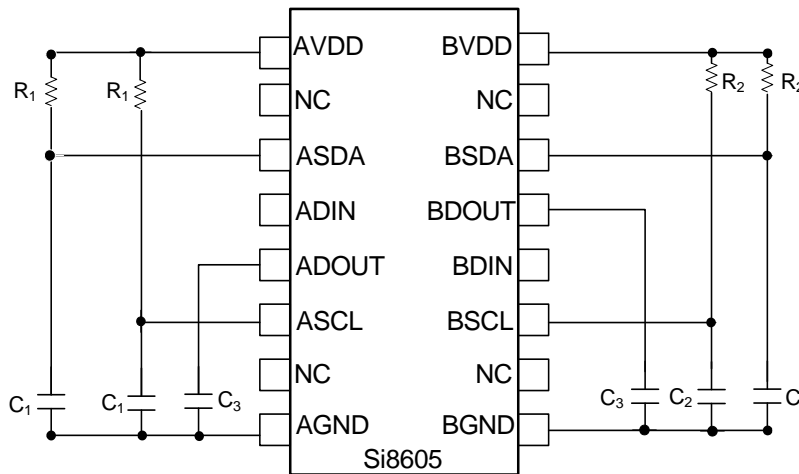
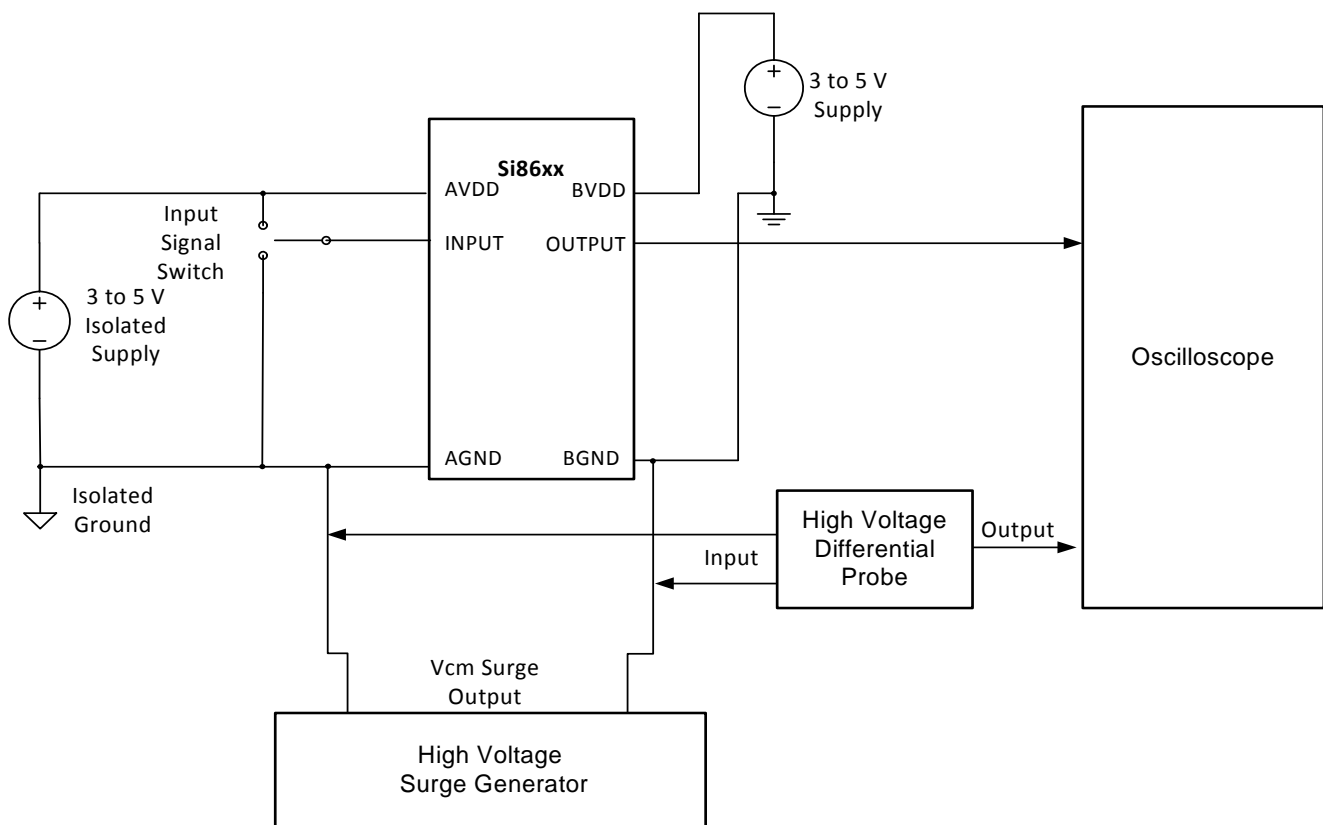

Figure 2. Simplified Timing Test Diagram
Figure 3. Common Mode Transient Immunity Test Circuit
3.0 V &lt; VDD &lt; 5.5 V. TA = -40 to +125 °C. Typical specs at 25 °C (See Figures 2 and 10 for test diagrams.)
| Side B to Side A Falling   | Tplba  | See Figure 2        | —   | 11  | 22  | ns   |
| 3.3 V  |        | See Figure 2        |     |     |     |      |
| Output Rise Time   | t r                      | C 3 = 15 pFSee Figure 1 andFigure 2 | —                  | 2.5  | 4.0  | ns   |
| Output Fall Time   | t f                      | C 3 = 15 pFSee Figure 1 andFigure 2 | —                  | 2.5  | 4.0  | ns   |
| Common Mode Transient Immunity | CMTI               | V I = V DD or 0 VV CM = 1500 V (see Figure 3) | 35   | 50   | —     | kV/μs |
Figure 2 depicts the timing test diagram; Figure 3 depicts the CMTI test diagram.